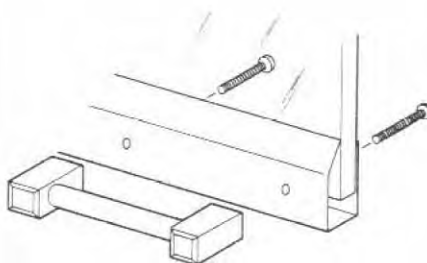

Figure 55
Step 9. Attach the four (4) brass and wood handles to the lower door frames with two (2) plated No. 6 Phillips pan head screws per handle. Cover the screws with the button plugs from the hardware kit (Figure 55).